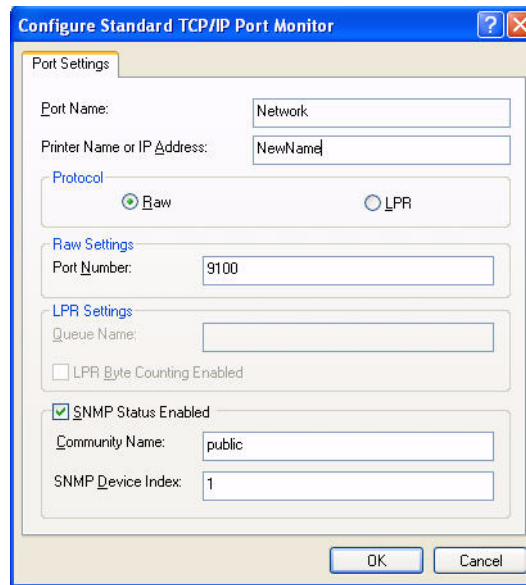

Figure 5 Configure Standard TCP/IP Port Dialog – New Hostname
6. Type in exactly the new printer **Hostname** from line 6 of the report page in the **Printer Name or IP Address** field (Figure 5), and then select **OK** twice to close the configuration and printer properties windows.